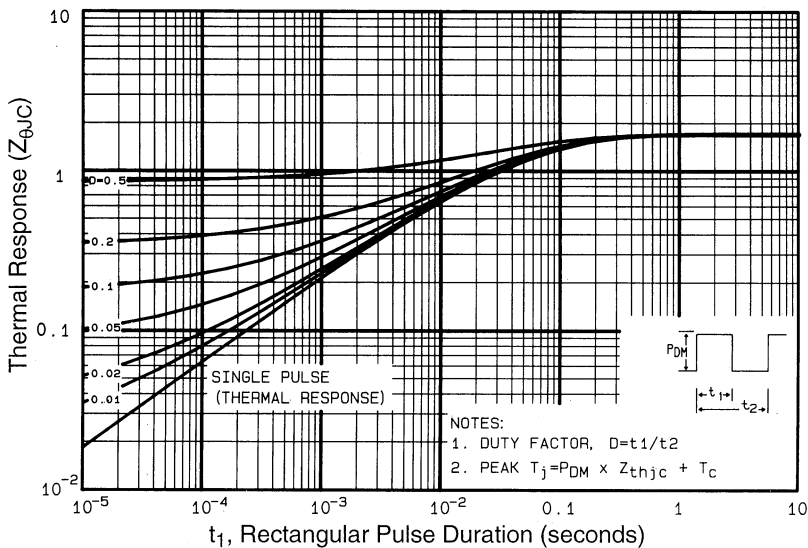

Fig 11. Maximum Effective Transient Thermal Impedance, Junction-to-Case
- ① Repetitive rating; pulse width limited by max. junction temperature. (See fig. 11)
- ② $V_{DD} = 25V$, starting $T_J = 25^\circ\text{C}$, $L = 290\mu H$